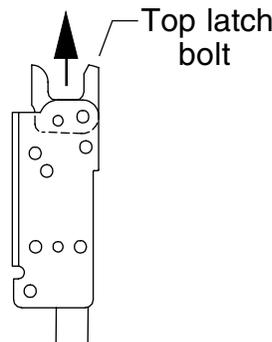
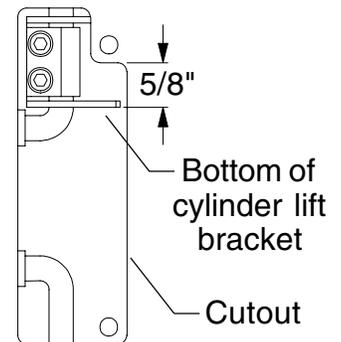

Figure 11-4
Figure 11-5
11.5. With top latch bolt released and facing up (Figure 11-4), position bottom of cylinder lift bracket 5/8" down from step in cutout (Figure 11-5). Maintain 5/8" location and tighten cylinder lift bracket mounting screws securely.